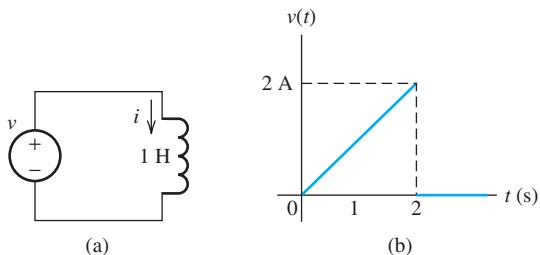

FIGURE P4.38 (a) Inductor circuit; (b) waveform of $v(t)$.
- 4.38 (H)** For the circuit shown in Figure P4.38(a), $v(t)$ is given in Figure P4.38(b). Assume the initial value of i , $i(0) = 0$.